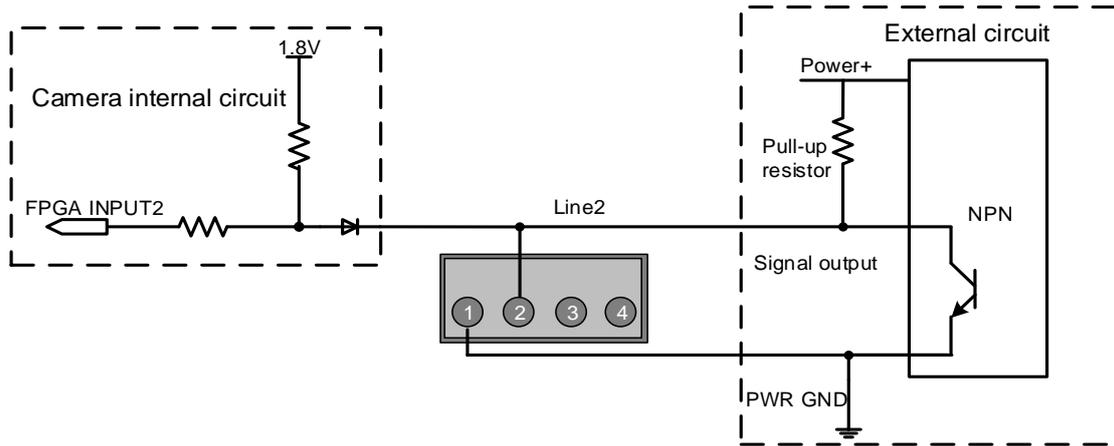
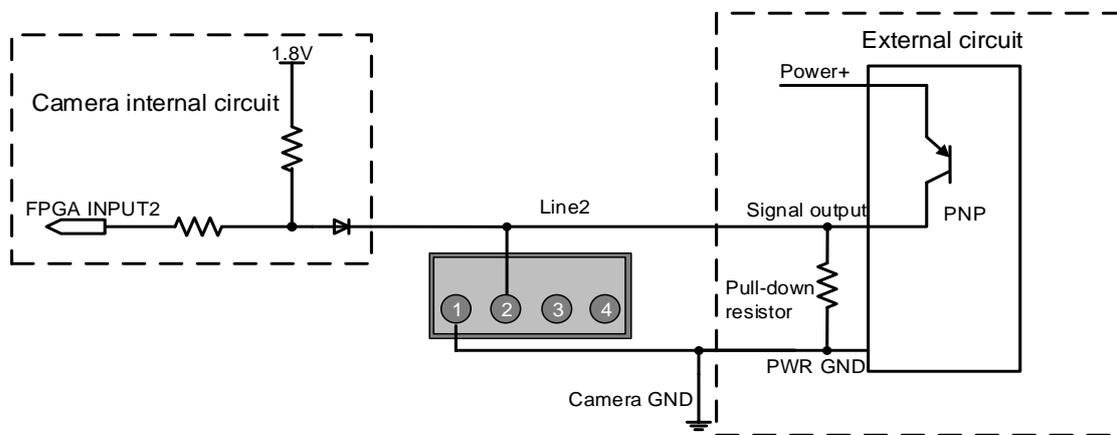

Figure 7-7 NPN photoelectric sensor connected to Line2 input circuit
Figure 7-8 PNP photoelectric sensor connected to Line2 input circuit
- When input of Line2 is high, input current is lower than 100uA. When input of Line2 is low, input current is lower than -1mA. The connection method between Line2 and NPN/PNP photoelectric sensors is shown in Figure 7-7 and Figure 7-8. The relationship between the pull-up resistor value and the external input voltage is shown in Table 7-5.